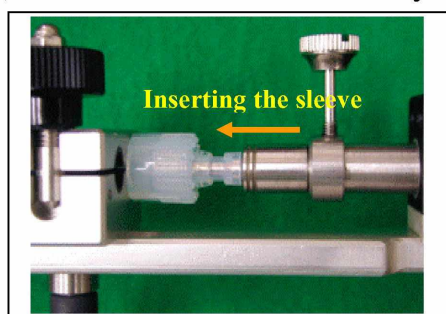

Fig. 35 - Inserting the sleeve
- Grip the lever, and the sleeve will be inserted into the tube (Fig. 35).